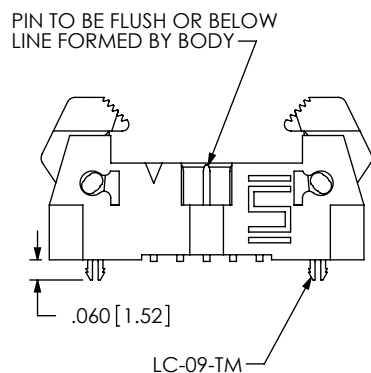

FIG 4
-LC: LOCKING CLIP(SEE NOTE 4) (FOR -SM ONLY) (SEE FIG 4, SHT 2, USE LC-09-TM)
-SM: SURFACE MOUNT (SEE FIG 4, SHT 2) (LEAVE BLANK FOR THRU HOLE)